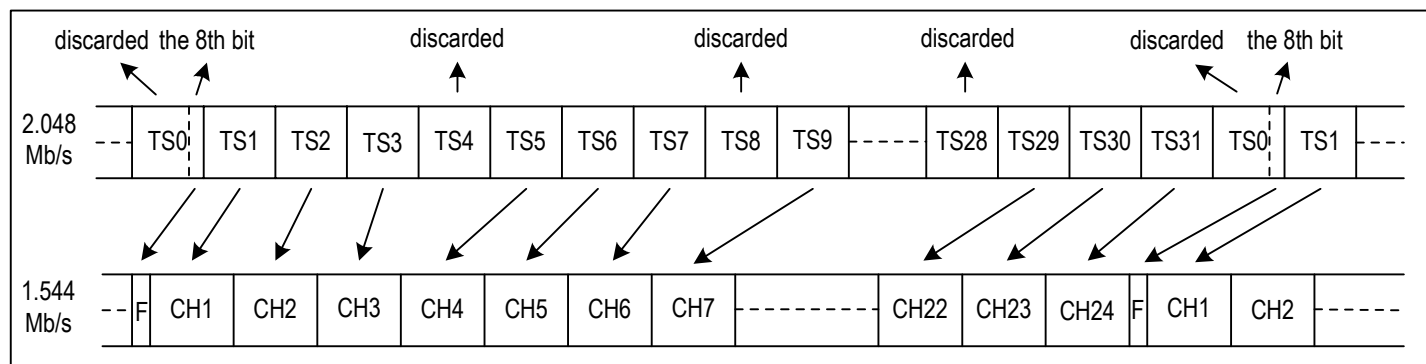

Figure 26. E1 To T1/J1 Format Mapping - One Filler Every Fourth Channel Mode
2. T1/J1 Mode E1 Rate per One Filler Every Fourth CHs (refer to Figure 26): The 8th bit of Frame N on the system side is converted to the F-bit of the Frame N to the device. Then one byte of the system side is discarded after the previous three bytes are converted into the device. This process repeats 8 times and the conversion of one frame is completed. Then the process goes on.